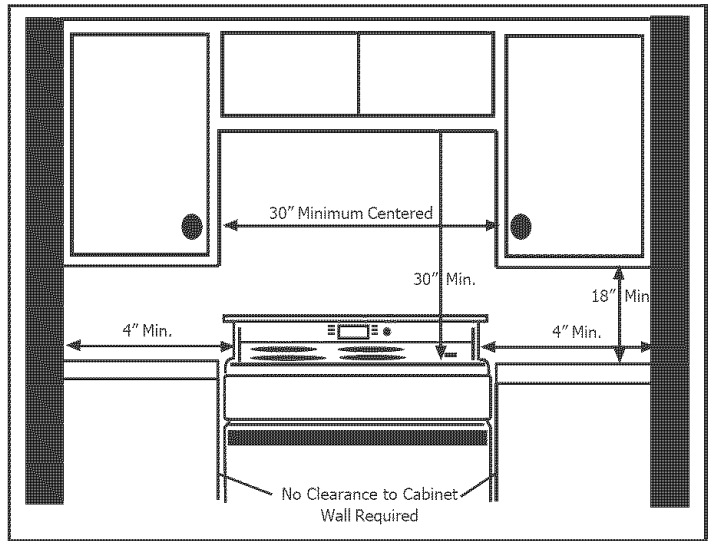

Figure 1: Cabinet Preparation
2. Prepare Cabinets (See Figure 1)